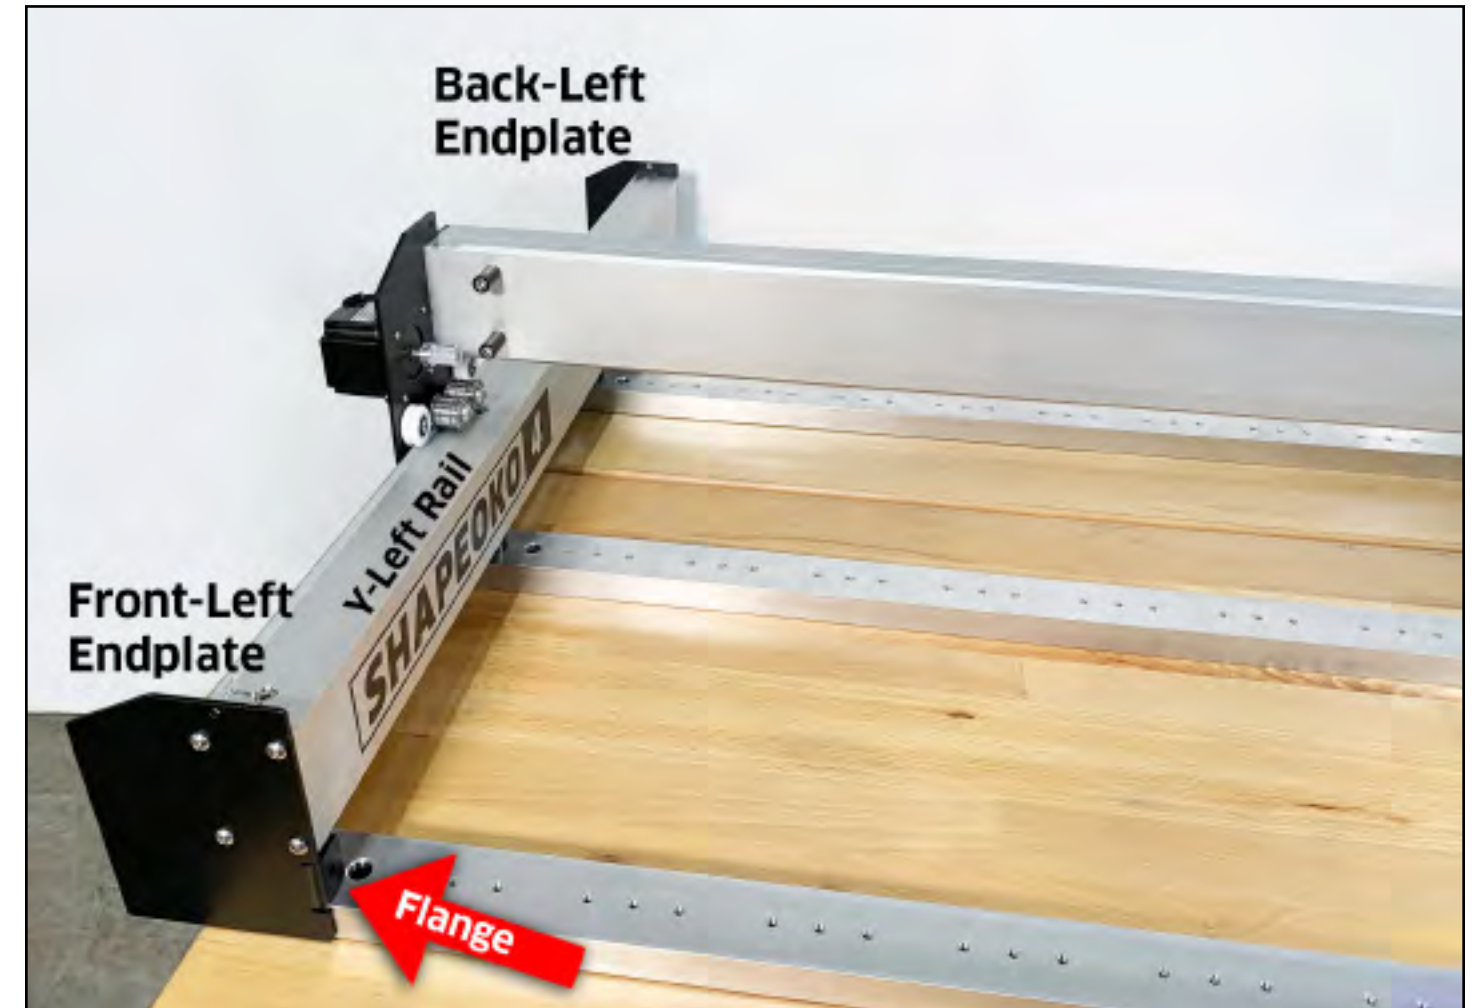

Figure 4-5
1. Position the two remaining endplates at either end of the Y-Left rail. See **Fig. 4-5**.
2. Use a 4mm hex key and four (4) M6×12mm BHCS to secure each endplate to the rail. Fully tighten.